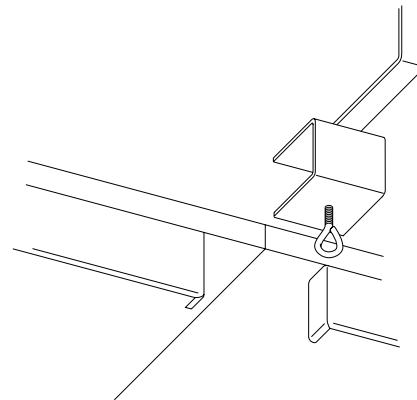

Figure 5
6. Secure net posts to center of table and slide net down over posts. See Figure 5.